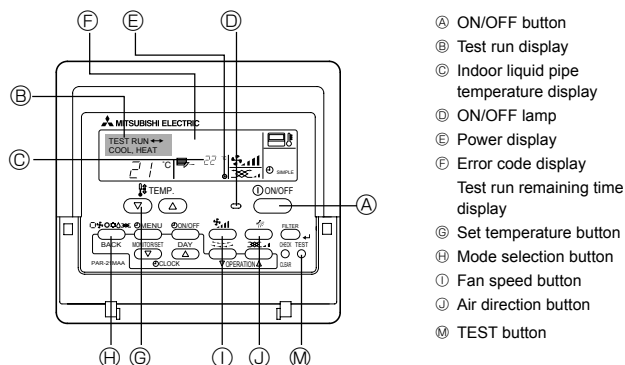

Fig. 8-1
8.2. Test run (Using wired remote controller) (Fig 8-1)